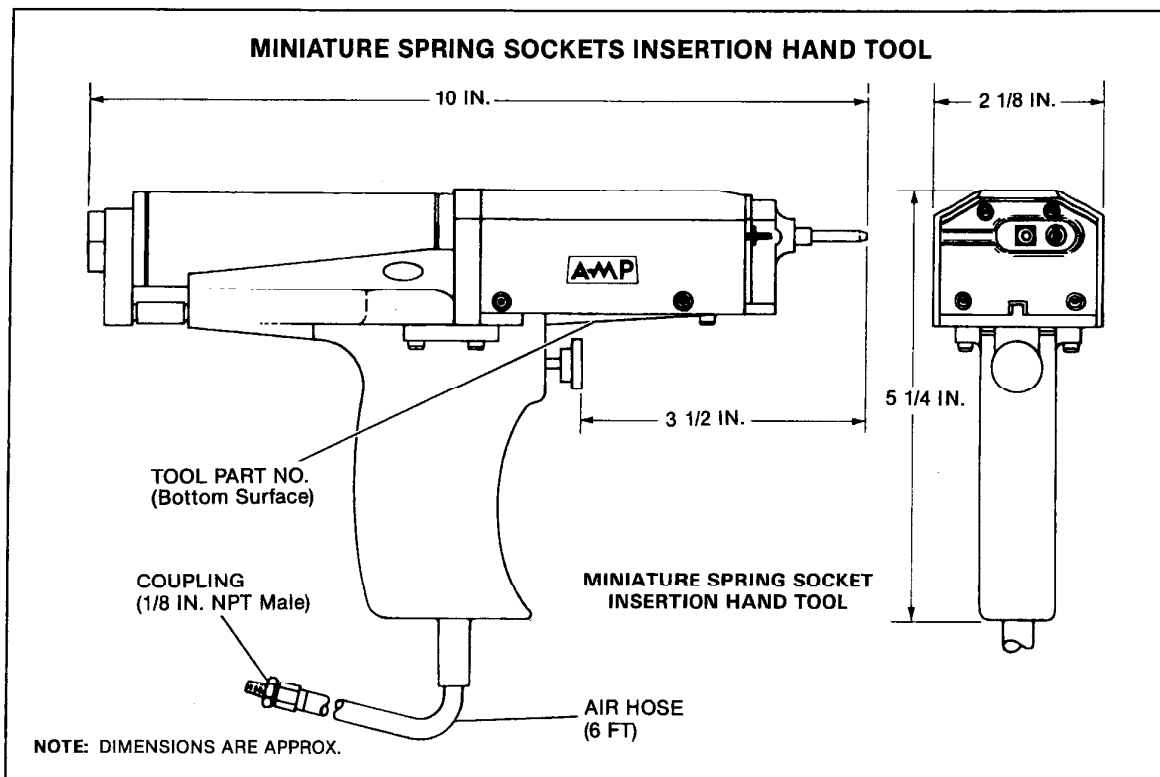

Fig. 1-1. Dimensions
The dimensions and specifications for the insertion hand tools are shown in Figures 1-1 and 1-2.
Tool Dimensions	See Figure 1-1
2.1. Physical Description (Figure 1-1)